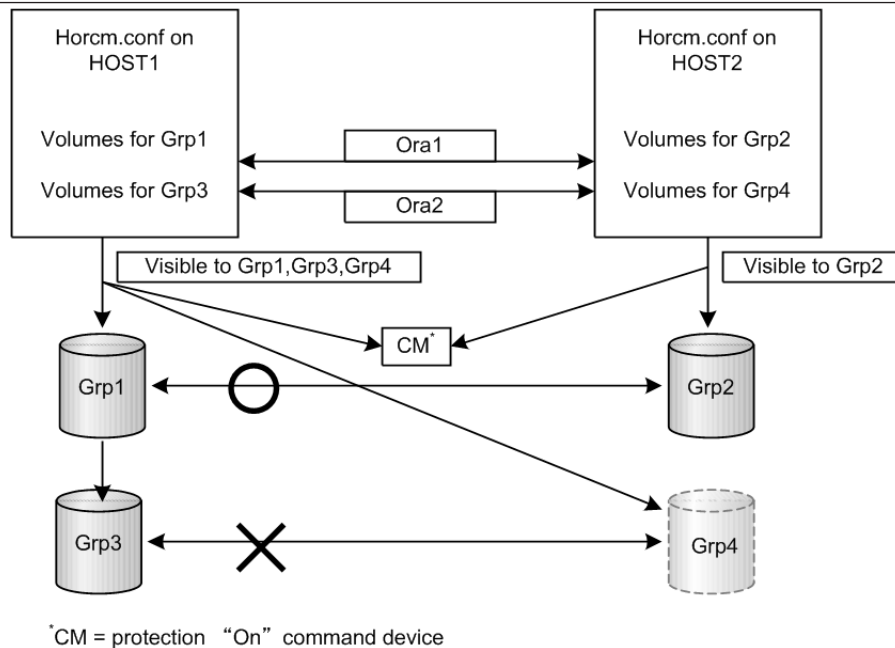

Figure 7-2 Example for the two-host configuration
Case (1): Two Hosts (Figure 7-2 Example for the two-host configuration on page 7-8). In protect mode Ora2 are rejected to operate the paired volume, because of Unknown for Grp4 on HOST2.